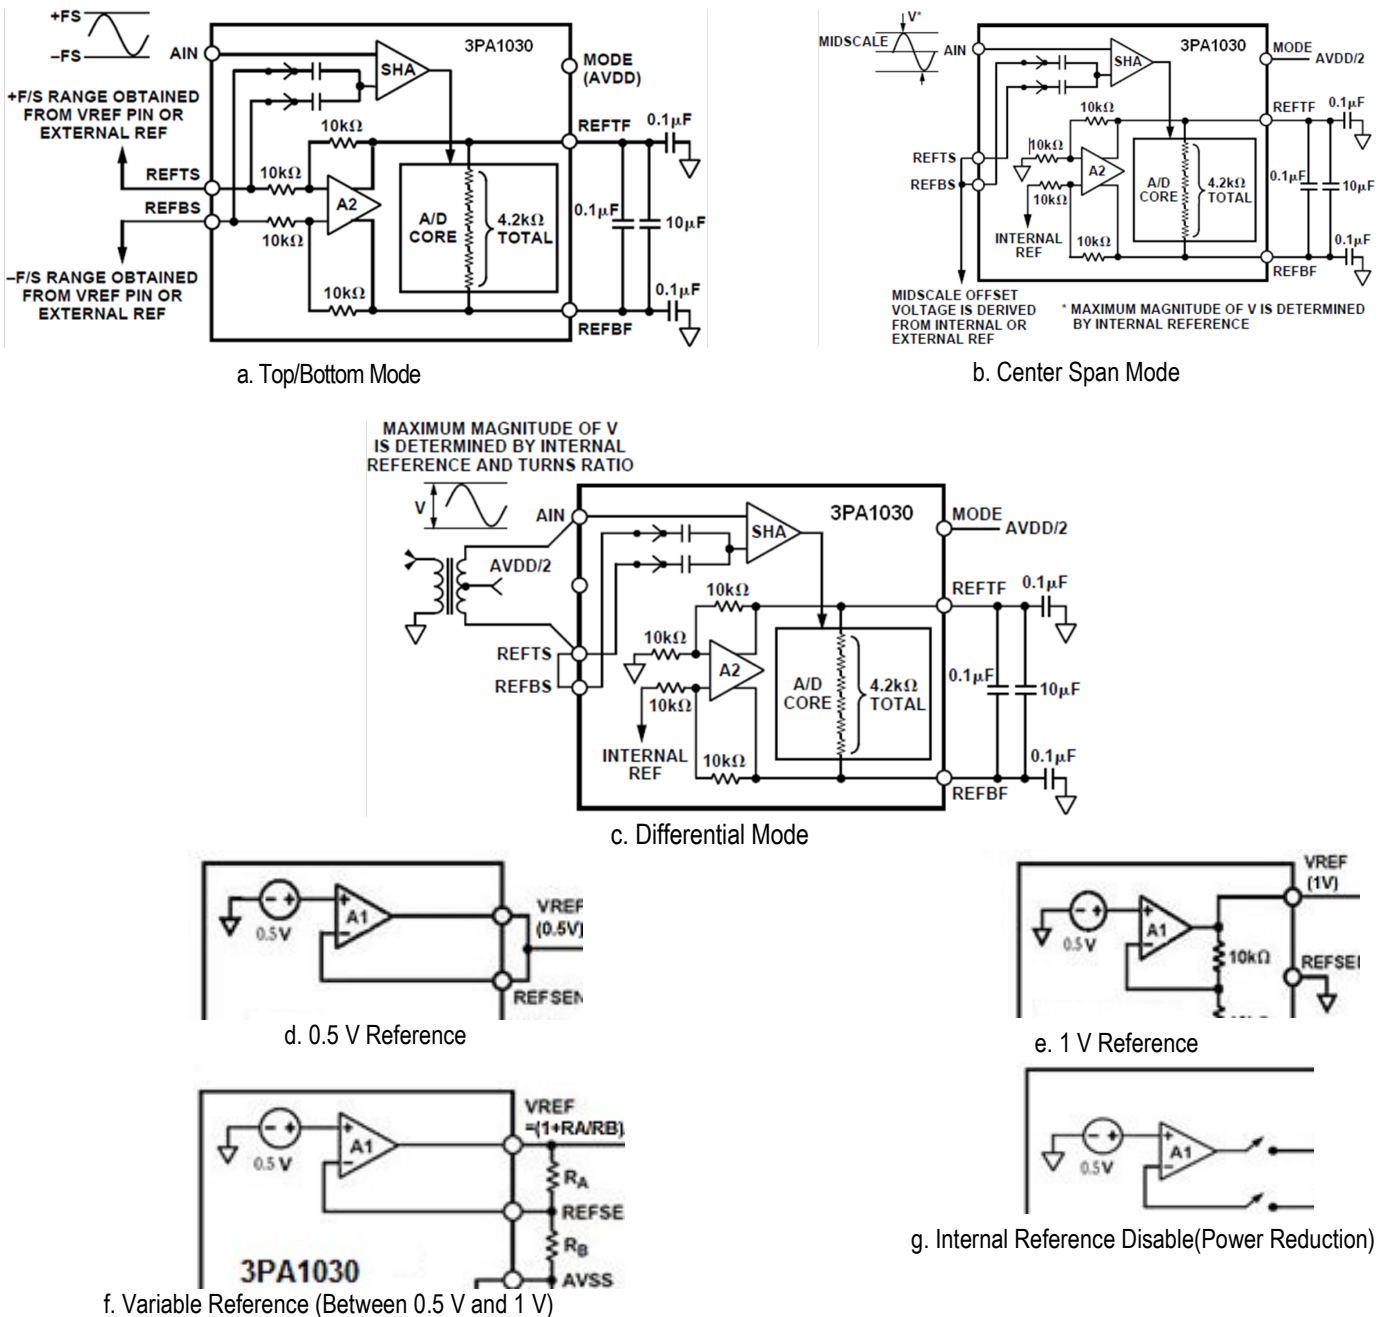

Figure 12.
**External Divider Mode** the internal reference may be set to a point between 0.5 V and 1 V by adding external resistors. See Figure 12-f.
Figure 12, a simplified model of the 3PA1030, highlights the relationship between the analog input, AIN, and the reference voltages, REFTS, REFBS and VREF. Like the voltages applied to the resistor ladder in a flash ADC, REFTS and REFBS define the maximum and minimum input voltages to the A/D.
Figures 12-d, 12-e and 12-f illustrate the reference and input architecture of the 3PA1030. In tailoring a desired arrangement, the user can select an input configuration to match drive circuit. Then, moving to the reference modes at the bottom of the figure, select a reference circuit to accommodate the offset and amplitude of a full scale signal. **Table I outlines pin configurations to match user requirements.**